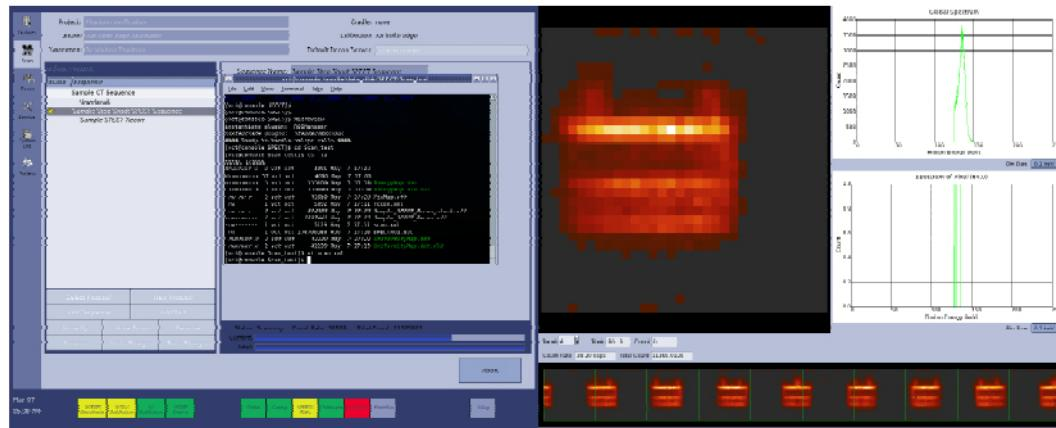

Figure 7-57
- 1.) The typical global spectrum and pixel map on the Console's right hand screen are shown in Figure 7-57.